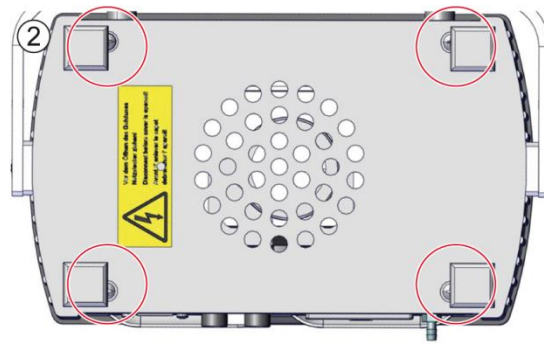

Fig. 8.4 – Housing shell fasteners
6. Release the 4 x M4 cross recessed screws on the underside (Fig. 8.4).